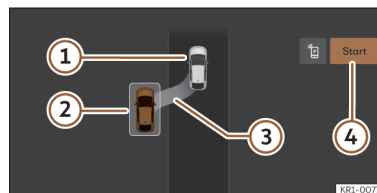
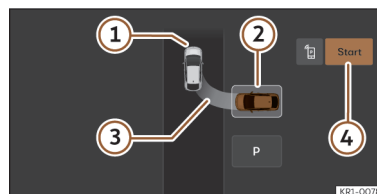

Fig. 157 On the infotainment system display: parallel parking position.
Fig. 158 On the infotainment system display: parking bay parking position.
>>> Fig. 157, >>> Fig. 158
- ① Your vehicle
- ② Parking space detected
- ③ Indication showing the proposed parking manoeuvre
- ④ Start parking manoeuvre
- Look at the display on the infotainment system's screen to see if the space has been detected as "appropriate" and if the correct position for parking has been reached >>> Fig. 157, >>> Fig. 158. Stop the vehicle and follow the instructions shown on the infotainment screen.
- Stop the vehicle, press the brake and, after a short pause, press the **Start** ④ button in the infotainment system.